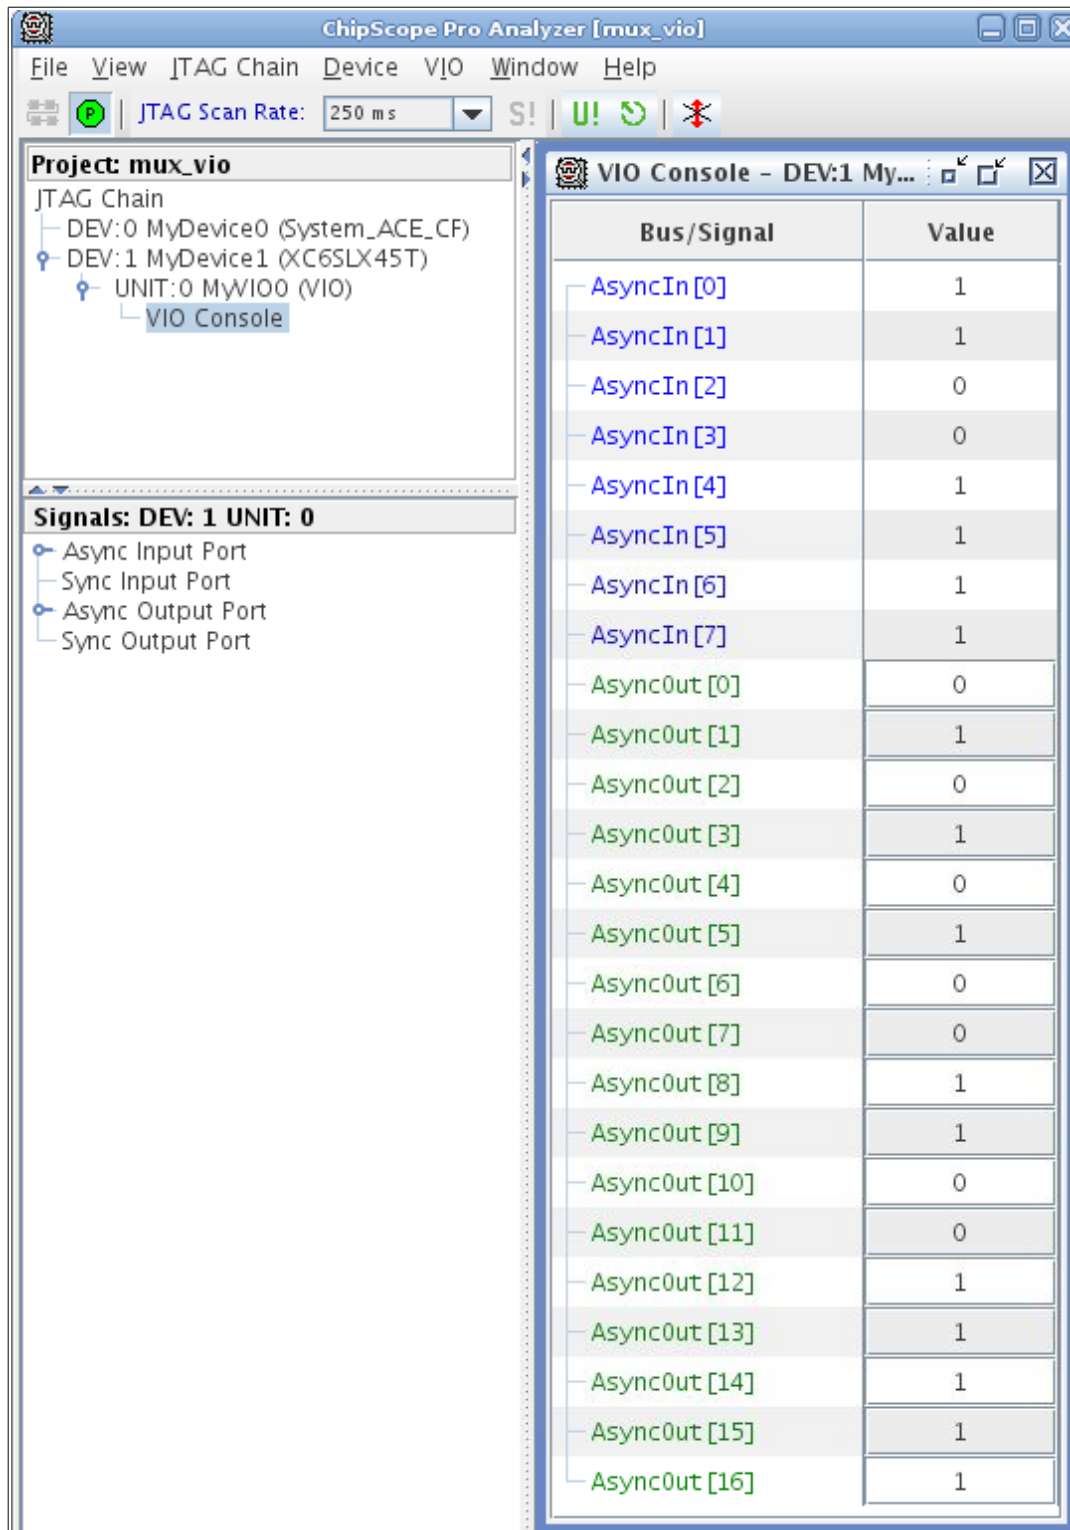

Figure 20
Change the bits to AsyncOut inputs and observe the AsyncIn outputs (see **Figure 20**). AsyncOut (7 downto 0) is connected to mux_2_1_8 module's A input, AsyncOut (15 downto 8) is connected to mux_2_1_8 module's B input, AsyncOut (16) is connected to mux_2_1_8 module's SEL input and AsyncIn (7 downto 0) is connected to mux_2_1_8 module's MUX_OUT output.